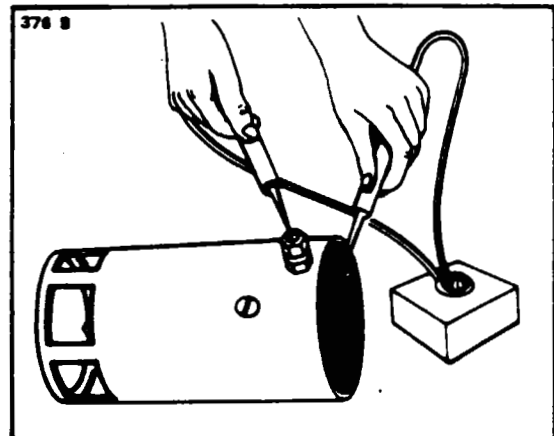

Figure 11-41. Testing Motor Fields for Grounds
a. Check the field coils for grounds (Refer to Figure 11-41) by placing one test probe on the frame and the other on the starter terminal. Be sure the brushes are not accidentally touching the frame. If the lamp lights, the fields are grounded. Repair or replace.